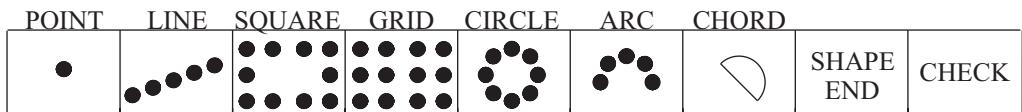

Figure 8-30 Point Cutting Pattern Menu Keys
- Choose CIRCLE from the Menu keys (Figure 8-30)